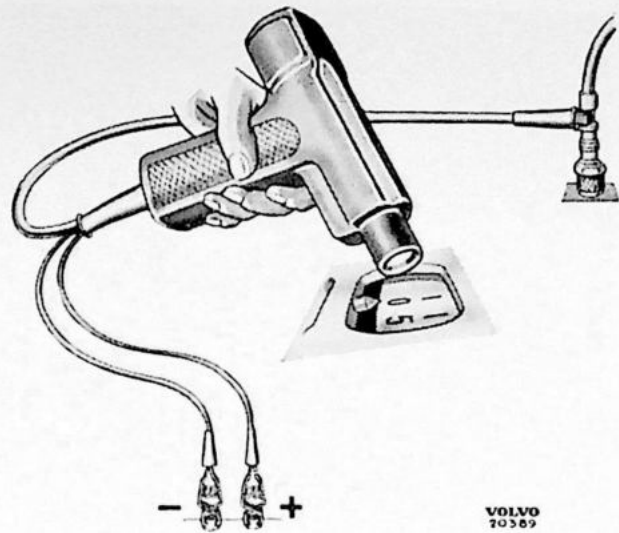

Fig. 82.
7. Use the lamp shown in Fig. 82 to check the ignition timing when the engine is running and point it to the flywheel cover window. The lamp connects to the battery and to no. one spark plug, and lights up every time no. one plug fires. Owing to the stroboscopic effect, the flywheel markings will appear as stationary. The engine should run at idle speed; at higher speeds the distributor governor becomes operative and advances the ignition timing so that the idle timing cannot be checked.